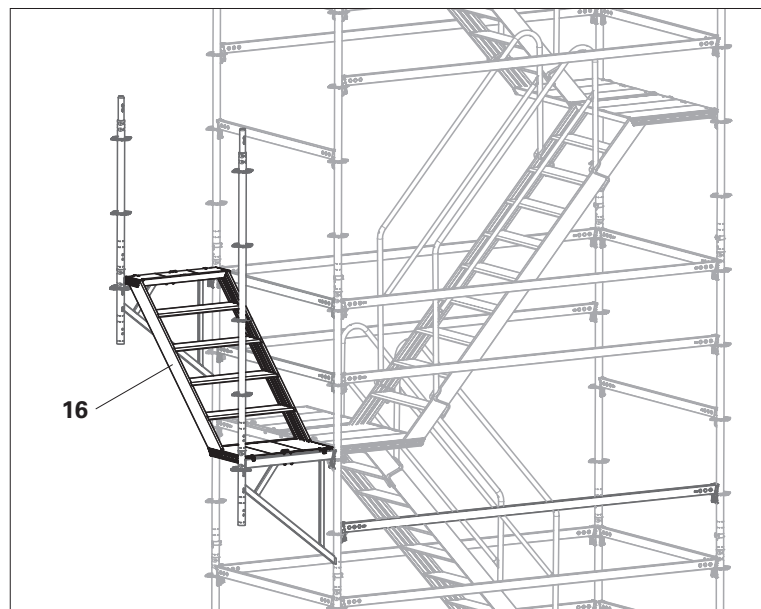

Fig. B6.04
4. Attach the flex stair (16). (Fig. B6.04)